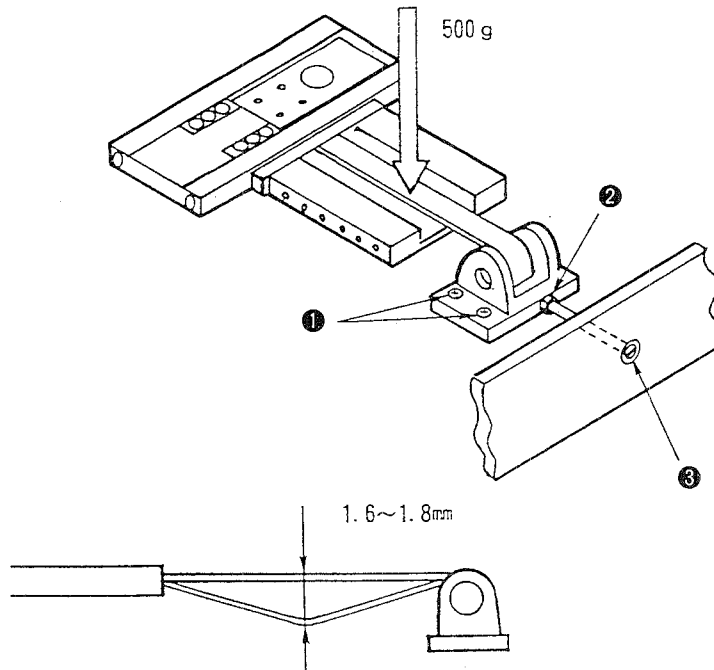

Fig. 5-31-1
<p>○ Loosen screw ① and nut ② . Turn tension adjusting screw ③ to adjust the belt tension. Tighten screw ① and nut ② .</p> <p>[Caution] Tightening screw ① will affect the belt tension, so check the belt slack again after tightening screw ① . (Fig. 5-31-1)</p>	<p>○ The pattern may be deformed.</p>